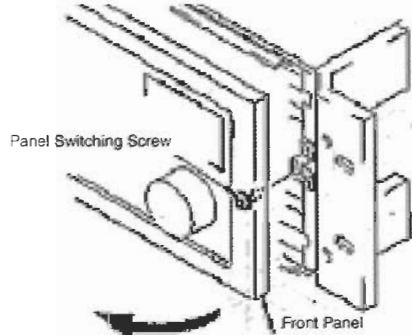

Figure 4
- Open the front panel of the SDDS Decoder (DFP-D2000), refer to Figure 4, and verify that the "S" & "P" data OK LEDs inside the processor are illuminated steadily, refer to Figure 5.